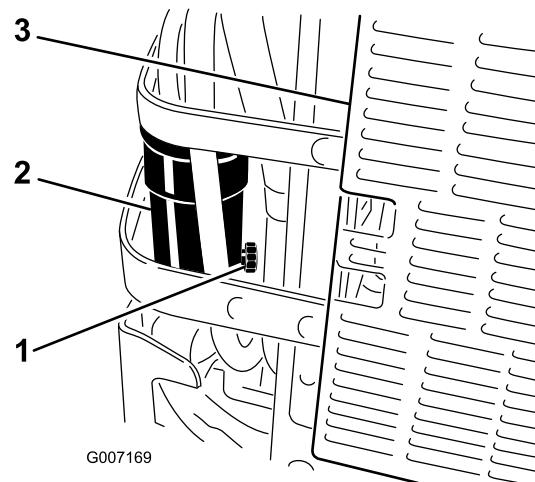

Figure 46
6. Open the drain valve on the water separator approximately one turn to allow water and other contaminates to drain (Figure 46).
7. Close the drain valve when only diesel fuel comes out (Figure 46).